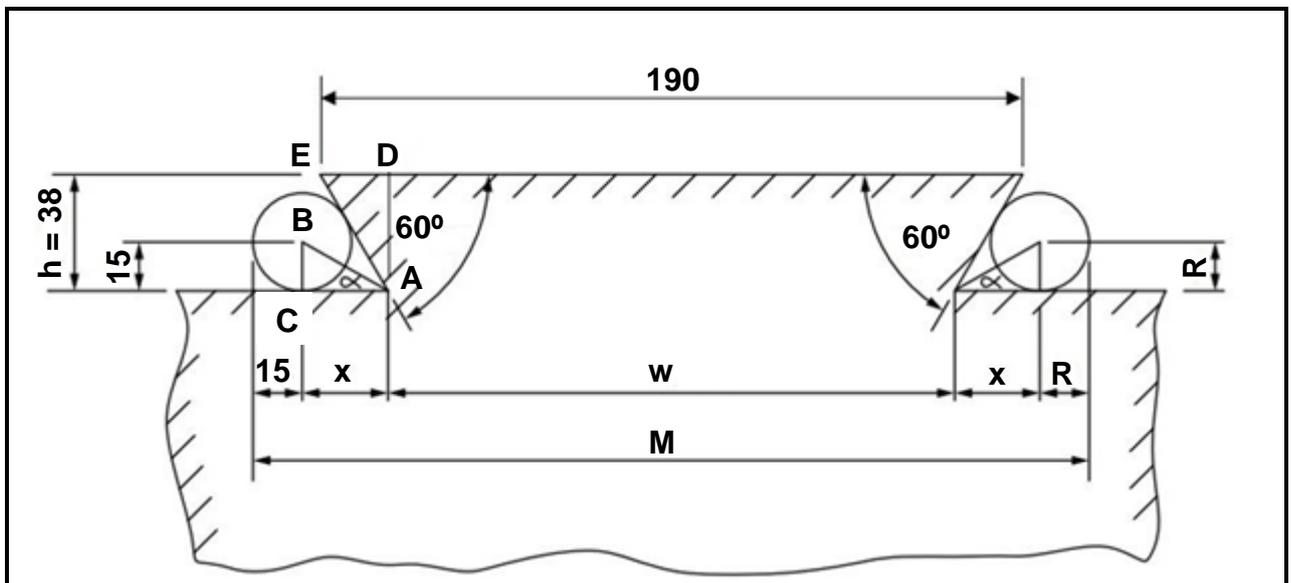

FIGURE 6.2
6.2 FIGURE 6.2 shows a drawing of a dovetail. Answer the questions that follow.